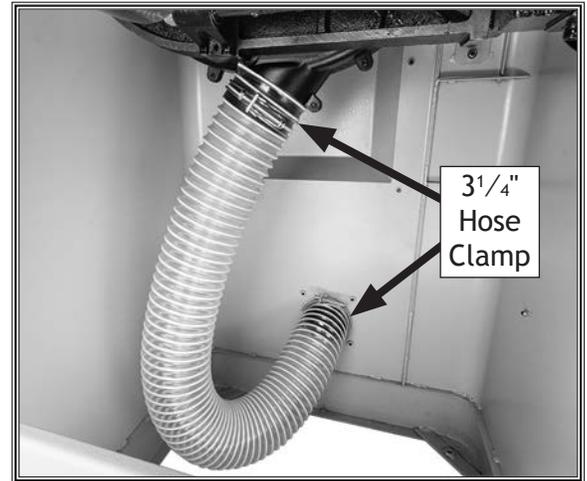

Figure 32. Dust hose connected inside cabinet.
30. Place 3 1/4" hose clamps over each end of 3" dust hose, then attach 3" dust hose to dust chute and dust port inside cabinet (see **Figure 32**).